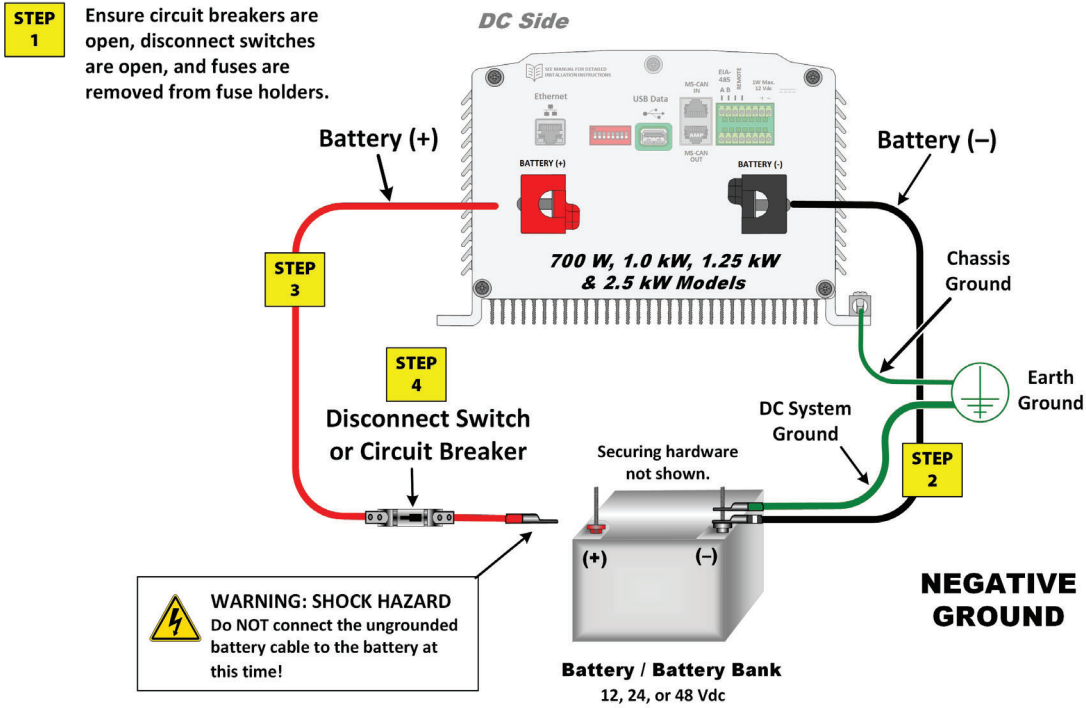

Figure 19: DC Connections on 700 W to 2,500 W Models with Negative Grounding
- **For 700 W, 1,000 W, 1,250 W & 2,500 W Models:** See Figure 19 on page 26